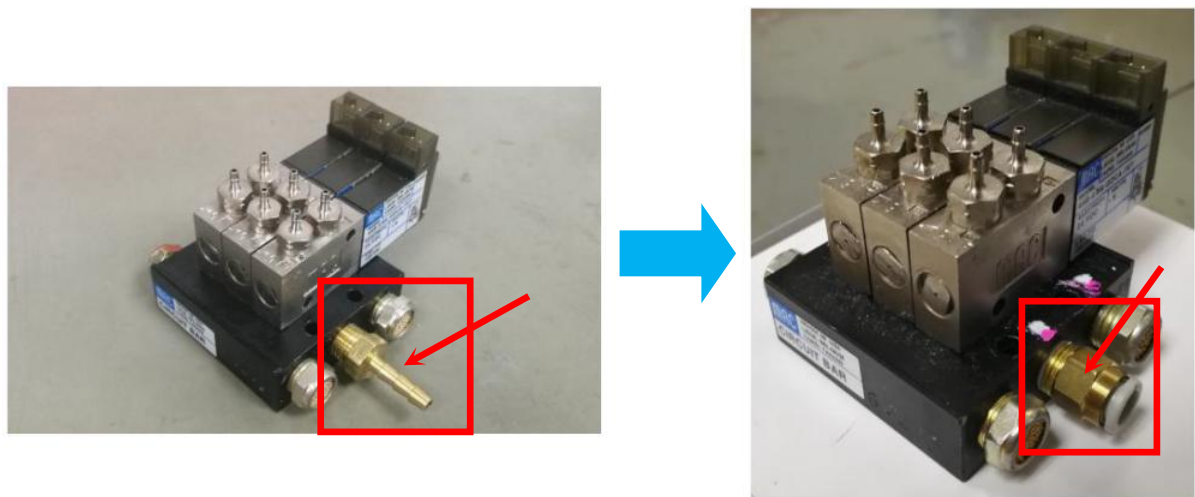

Figure 10
- iii. Assemble the Metric Inlet Port at New Spare Valve Assembly as below Figure 10